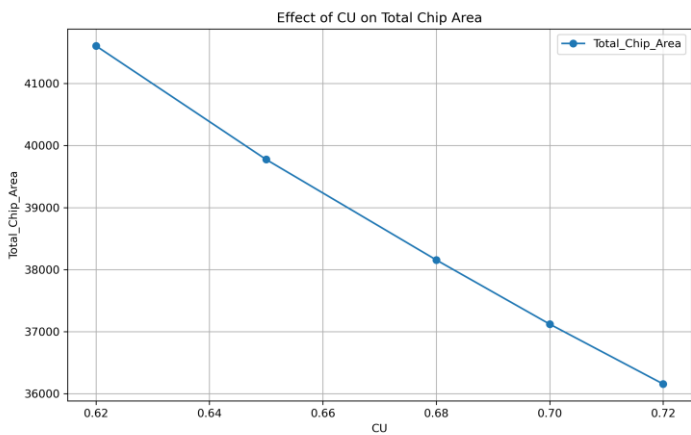
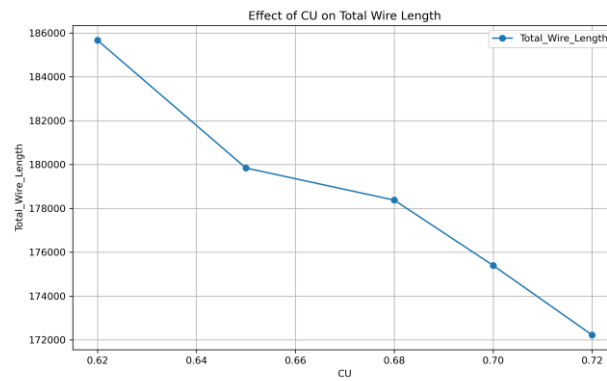
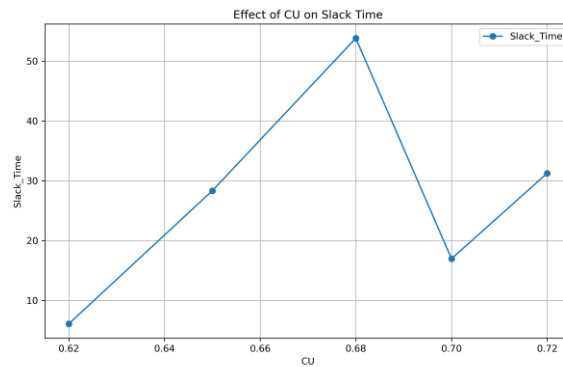

Figure 1
Figure 2
Figure 3
Figures 1, 2, and 3 illustrate the effects of varying core utilization (CU) on chip design metrics, with a constant clock period (CP) of 700. Figure 1 depicts total chip area, Figure 2 shows total wire length, and Figure 3 presents slack time. Observations from Figures 1 and 2
reveal that higher CU reduces both total chip area and wire length. However, the relationship differs between the two: the effect of CU on chip area is linear, whereas its impact on wire length is nonlinear. In contrast, Figure 3 indicates no significant correlation between CU and slack time.